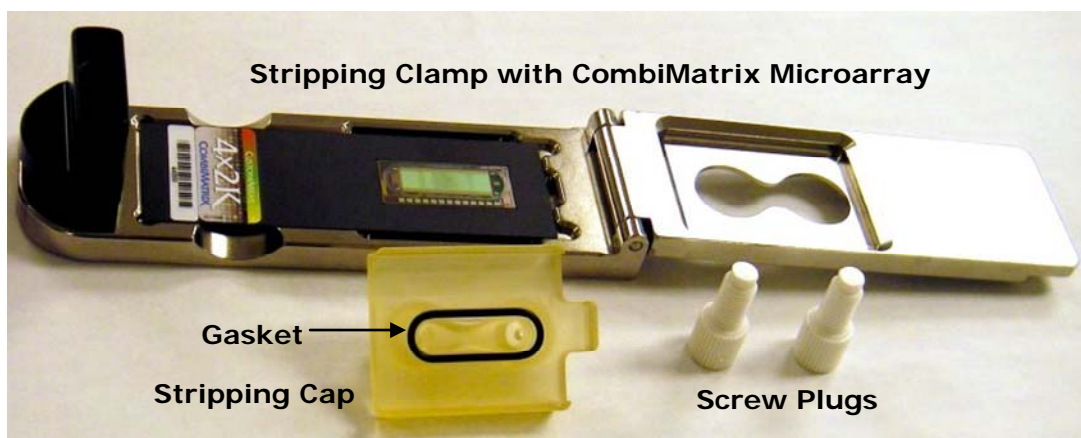

Figure 1. Placement of a microarray in the CustomArray™ Stripping Clamp.
1. The Stripping Cap and Screw Plugs supplied with the kit can be used for 25 stripping reactions. Wash the Stripping Cap and Plugs with ethanol and dry carefully with a paper towel/tissue. Place a new gasket into the O-ring groove on the Stripping Cap (see Figure 1).
5. Place the microarray into the Stripping Clamp with the array semiconductor side-up, and the microarray label close to the knob (see Figure 1).